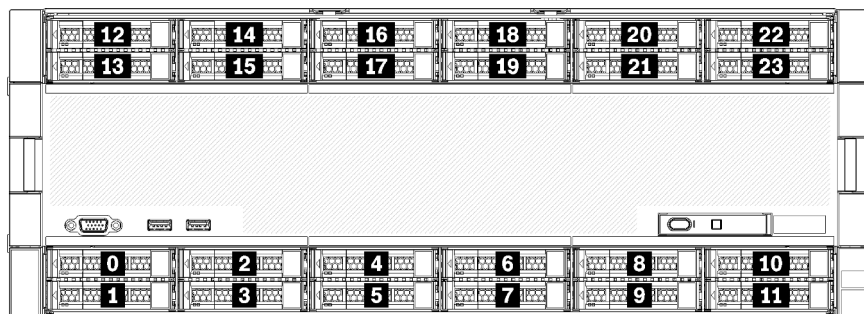

Figure 5. Drive bay locations
- Top two drives support SAS, SATA, or NVMe interface drives (Lenovo AnyBay). The server can support up to 12 NVMe drives, depending on the server configuration. The NVMe-capable drive bays are the even-numbered bays as shown in Figure 5 “Drive bay locations” on page 17.